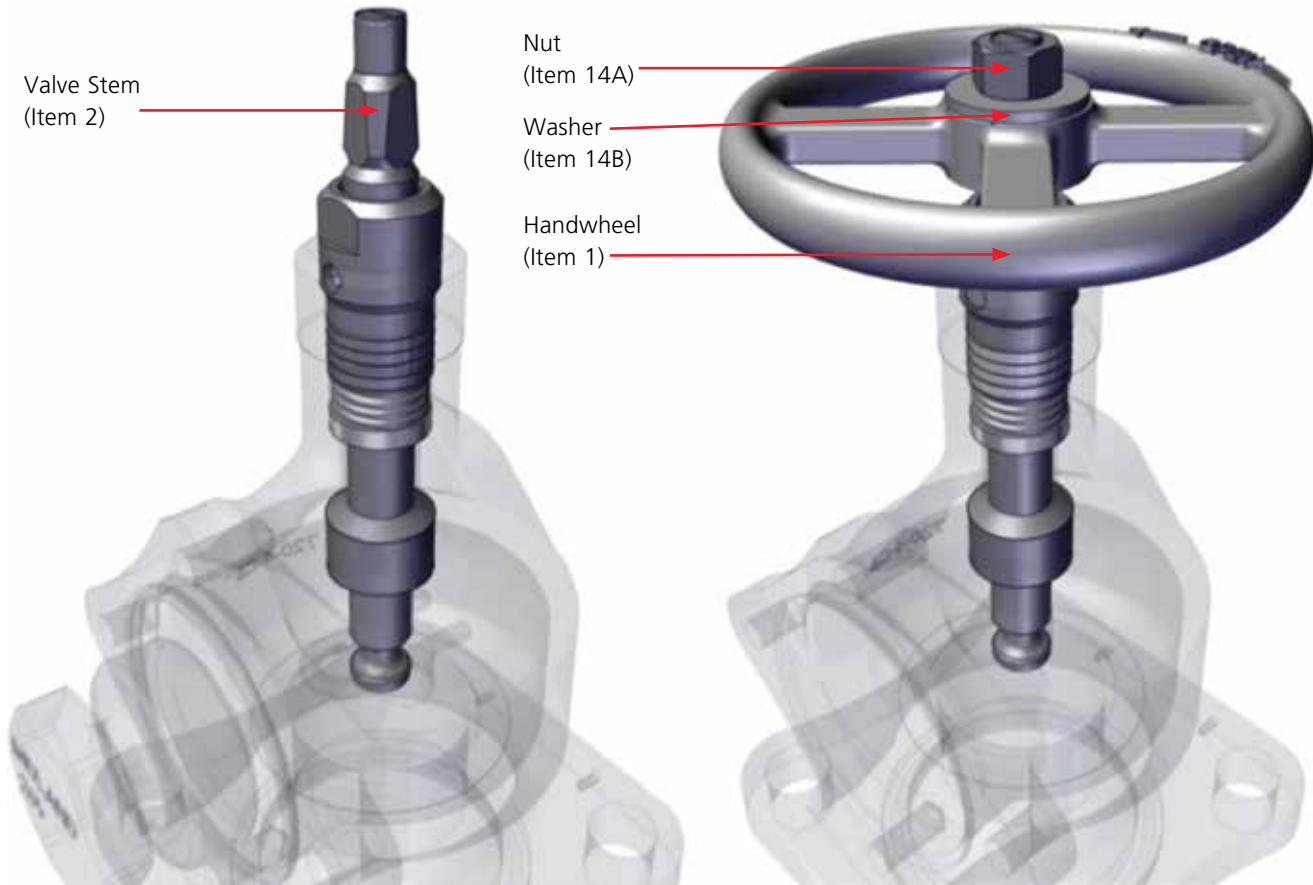

Figure 7-2 Reassembly steps 7.2.8 through 7.2.10
- 7.2.8** From the bottom side of the body, insert the handwheel end of the stem (item 2). Screw the stem up until the handwheel flats clear the top of the packing screw; see Figure 7-2.
- 7.2.9** Put on the handwheel (item 1), and then the handwheel lock washer (item 14). By hand, screw the handwheel nut (item 14) onto the stem as far as it will go; see Figure 7-2.
- 7.2.10** Turn the handwheel counter clockwise to move the stem up into the neck of the body. It should move easily. After several turns, stop when the stem thread come into contact with the lower packing washer (item 9); see Figure 7-2.